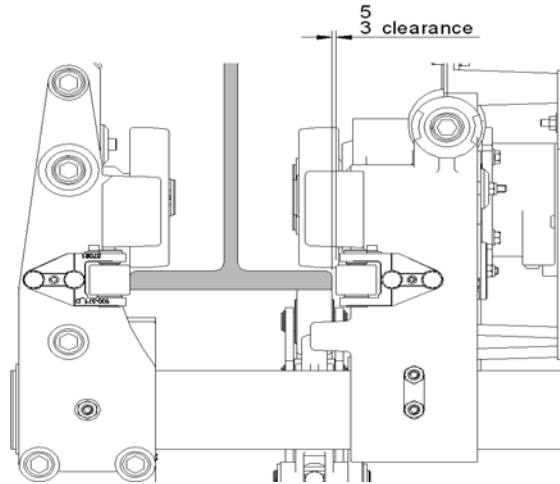

Figure 17 – Low Headroom Runway Clearance
- Push the panel side trolley onto the runway (tap with rubber / nylon mallet as necessary) until the gap between guide roller and toe of flange is between 3 and 5mm (see Figure 17). Check that the gap is the same at both ends.
Before setting the reaction roller ensure that the side guide rollers on the panel side trolley frame, i.e. the guide rollers on the same side as the reaction roller assembly, are in contact with the toe of the runway beam flange. For the setting operation the clearance between the side guide rollers and the runway flange must be on the barrel side (note this is on the **opposite** side to that shown in Figure 17).